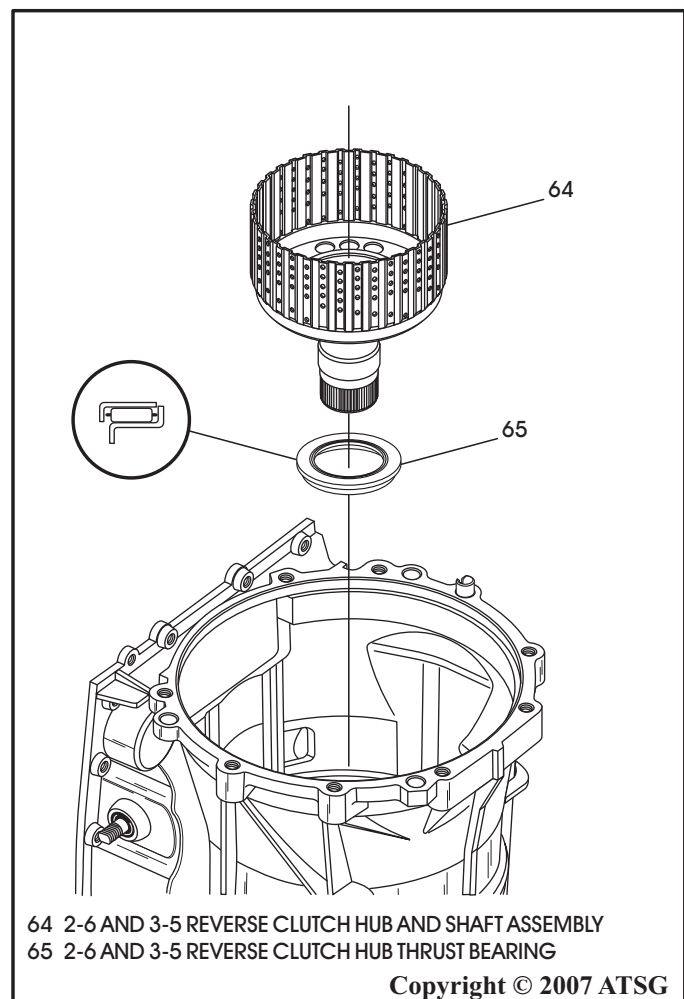

Figure 157
9. Install the thrust bearing on top of the center support in direction shown in Figure 157.
10. Install the 2-6 and 3-5 reverse clutch hub and shaft assembly, as shown in Figure 157.